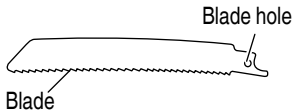

Fig. 13
**Do not use any saw blade with a worn-out blade hole. Otherwise, the saw blade can come off, resulting in personal injury. (Fig. 13)**